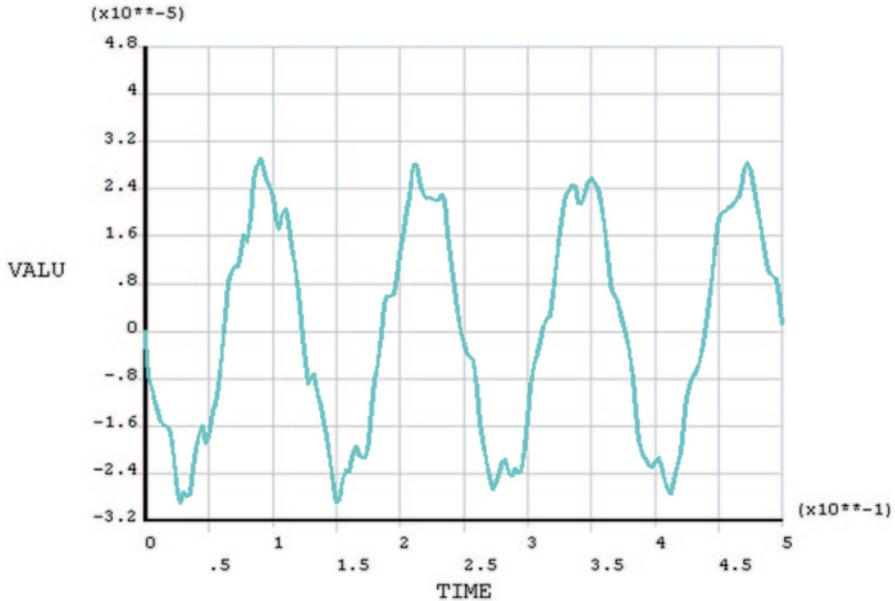

Fig. 8.98 Time variation of the y -displacement at the midpoint
- The plot appears in the *Graphics Window*, as shown in Fig. 8.98.